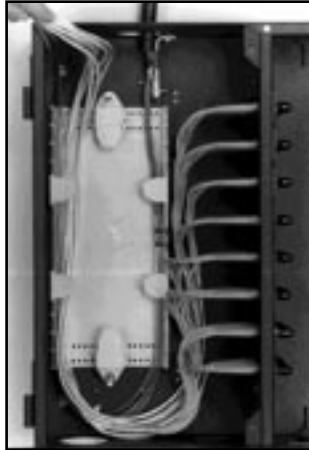

FIGURE 8 - ROUTE TRANSPORT AND PIGTAIL TUBES WITHIN TRANSITION ASSEMBLY
6.01 Route the Transport Tubes with the feeder cable fibers and the Pigtail Tube Assemblies within the Transition Assembly so that they will exit at the top left corner of the Transition Assembly. (Figure 8)